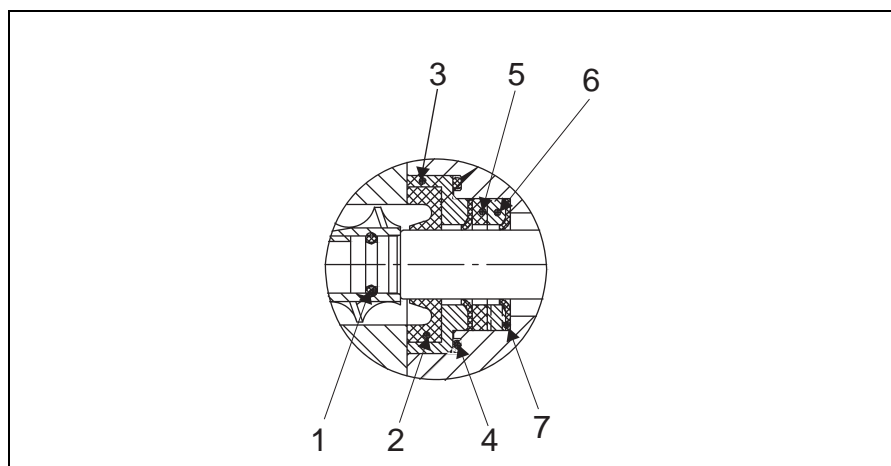

Fig. 7.2 Assembly screw seal
2. In order to ensure that the seal is not damaged when being slid over the screw bearing shaft lubricate the seal lips (2) lightly with suitable grease.
3. Slide the seals according the assembly (see Fig. 7.2) onto the screw bearing shafts. The sealing lips (2) point towards the agitator hopper. If the sealing lips are pointing to the wrong direction the sealing is not guaranteed.